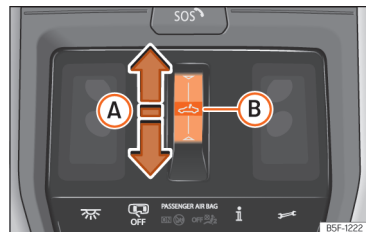

Fig. 85 On the interior roof lining: sunroof button.
- Automatic movement: slide your finger back over the functional area  **Fig. 85 (A)**.
- Before approx. 5 seconds after activation of the anti-trap function, slide your finger forward over the functional area  **Fig. 85 (A)** and keep pressed until the sunroof is fully closed.